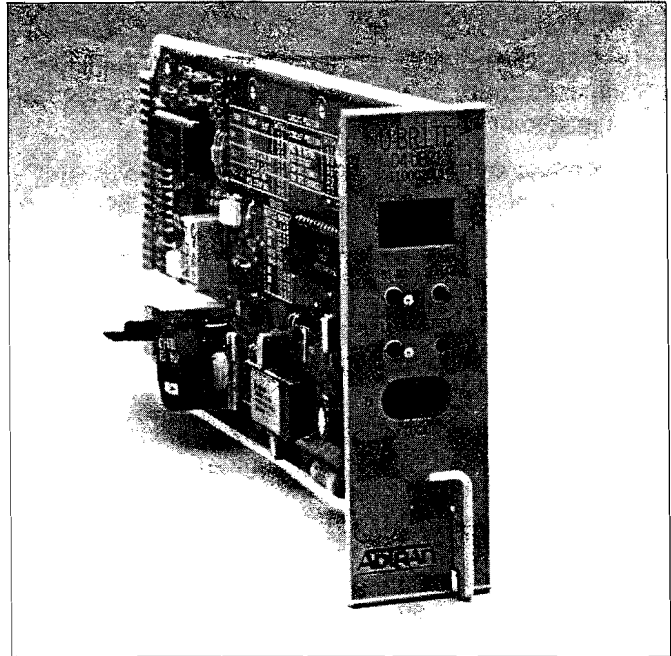

FIGURE 1. U-BR1TE Front View
1.01 This section provides installation and maintenance information for the ADTRAN U-BR1TE. **Figure 1** is a frontal, three-dimensional view of the unit. The part number and basic features for the U-BR1TE are provided in **Table A**.